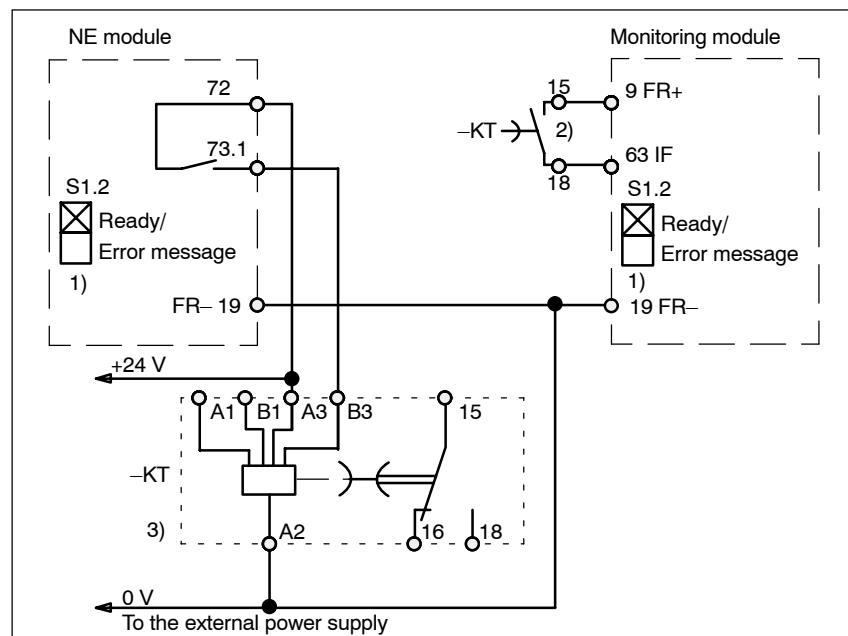

Fig. 8-8 Delayed shutdown, pulse enable
- Delayed shutdown pulse enable --> refer to Fig. 8-8